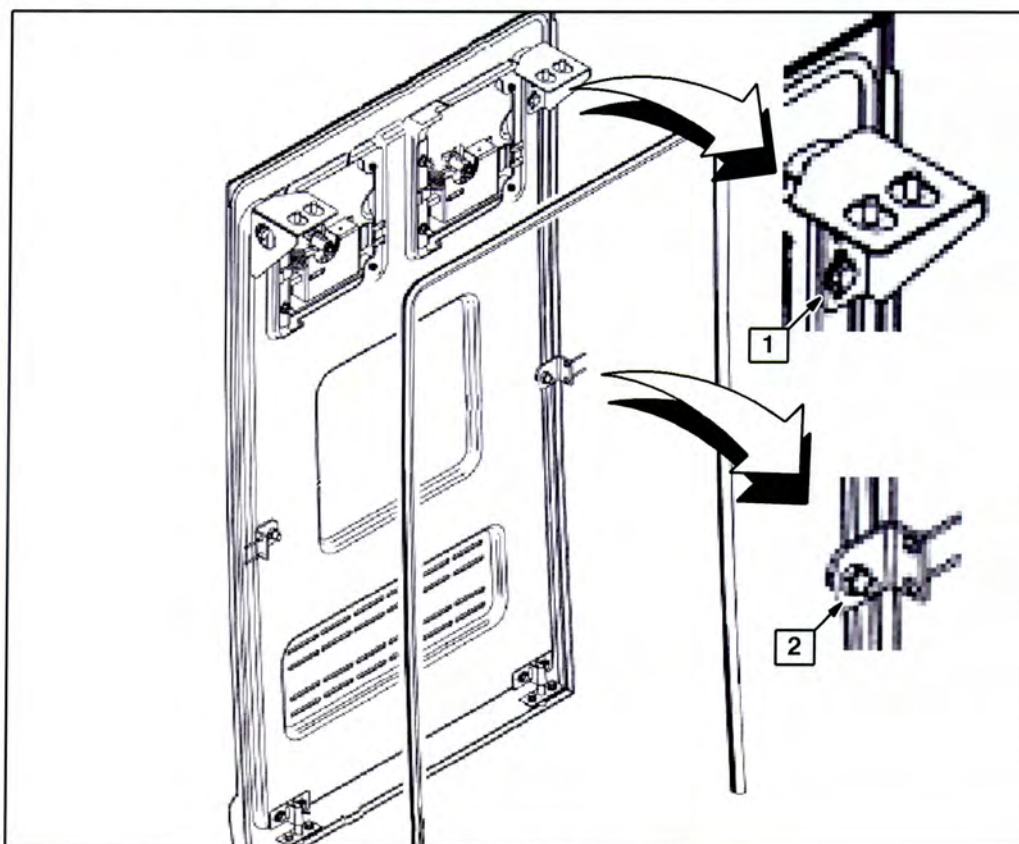

Figure 2. Fuel panel.
4. Locate the front fuel panel brackets (refer to Figure 2). Remove and retain the mounting hardware shown in Figure 2 to unsecure the fuel panel from the coach frame.